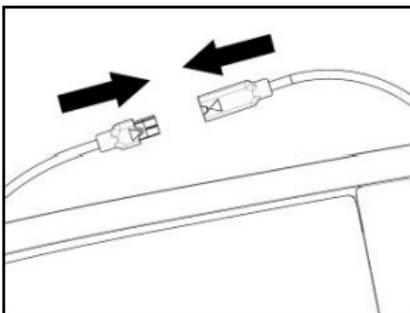

Fig. 27
- Connect the battery to the wiring system (Fig. 27).